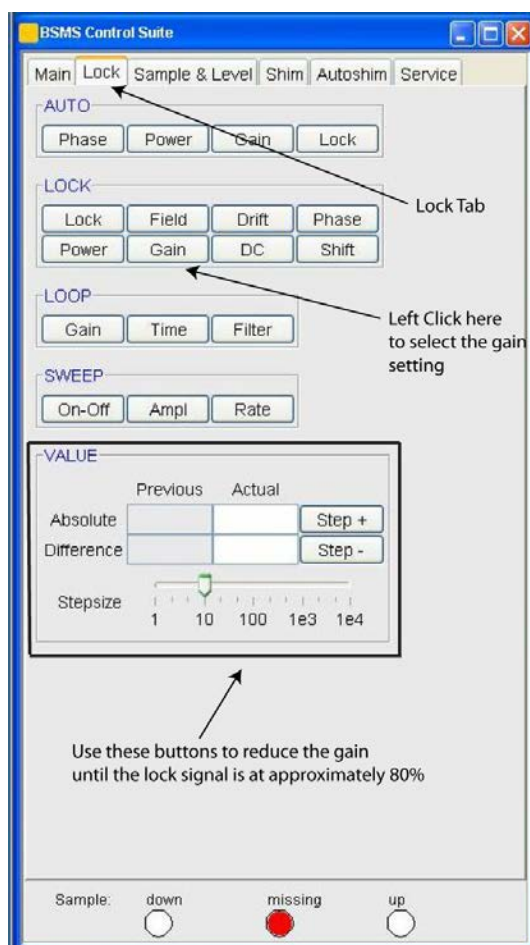

Figure 12 Lock tab of the BSMS interface.
(11) Now that the probe is tuned the magnet can be shimmed. The automatic shimming process can be carried out by left clicking on “Gradient Shimming” in the NMR step-by-step menu. The process of auto-shimming can take a few minutes so please be patient. When the process is completed the bottom of the main topspin window should say “gradshimau finished”. If you are unhappy with the auto-shimming method you can use the “instructions for manual shimming” document which can be found at the following link: <http://www.uleth.ca/artsci/magnetic-resonance/information-users>.
(12) The auto-shimming process usually increases the lock signal to the point where it is greater than 100% and is no longer visible on the lock screen. When this occurs you should re-open the BSMS interface by left clicking on “BSMS Panel” in the NMR step-by-step menu. Inside the BSMS interface you should left click on the lock tab (see Figure 12). Now you should left click on the gain button as this will allow you to make adjustments to the gain. Lastly, you should left click on the “step –“ button until the lock signal re-appears on the screen and the lock signal strength is at ~80%. The step size ruler (shown in the highlighted box) can be used to increase or decrease the value by which the “step –“ and “step +” buttons change the lock gain.